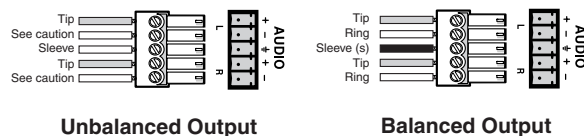

Figure 2-7 — Captive screw connector wiring for audio output
- ⑥ **Preview and Program audio output connectors** — Connect audio devices, such as an audio amplifier or powered speakers to these 3.5 mm, 5-pole captive screw connectors. The connectors output the selected unamplified, line level audio. See figure 2-7 to properly wire an output connector.
- ⑦